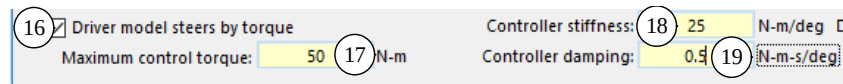

Figure 24. More parameters are used when the driver model steers by torque.
- ①⑥ Checkbox to have the driver model steer by torque. When checked, three more fields are shown: ①⑦, ①⑧, and ①⑨ (Figure 24). The DM still calculates a target steering wheel angle, but instead of applying it regardless of the implied torque, it instead uses a controller to generate steering wheel torque as needed to generate the angle requested by the controller.